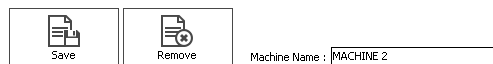

Figure 81: Save, Remove buttons and Machine Name edit box
11. Enter the new name for tufting frame in the *Machine Name* edit box and click on *Save* button on *Machine Dimensions* box (Figure 81).
For modifying the size of a frame in a list, simply click on it, change the *Margins* or *Safe areas* and then click *Save* button (Figure 81).
For removing a frame from list of frames simply click on *Remove* button (Figure 81) and then click *Yes* button on confirmation message box.